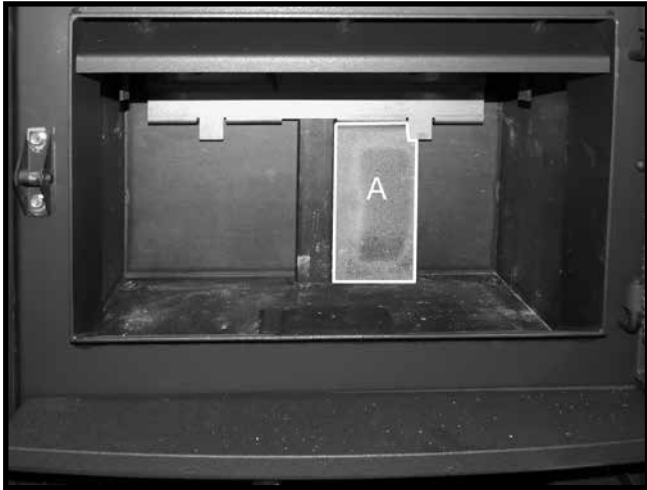

Figure 12. Installing the 1st of the rear wall bricks
1. Stand one "A" firebrick vertically behind the tab located on the brick rail. Slide the firebrick toward the center of the rear wall Figure 12.